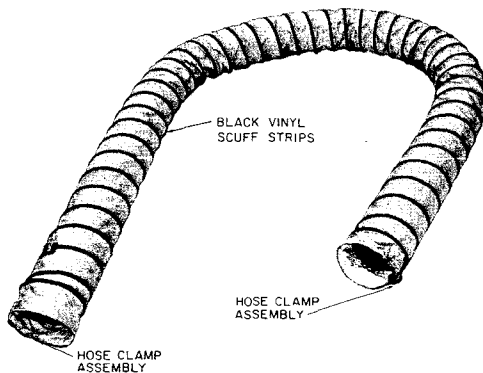

Fig. 1—B Blower Hose
2.01 The B Blower Hose (Fig. 1) is 15 feet long and has a diameter of 8 inches. It is designed to convey air from a blower or heater unit into a manhole.